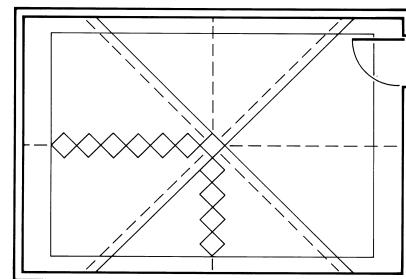

Fig. 27 - Adjusting chalk lines for a diagonal layout.
- Measure the distance between the last whole tile and the wall. If the distance in either row is less than one-fourth of the diagonal dimension of the tile (whole tile = 5 1/2" and a separated tile = 2 3/4"), adjust the starting point and snap a new chalk line (use the dimension for the tile being installed) away from the original chalk line (Fig. 27). This will provide a balanced layout with larger cut tile around the perimeter.